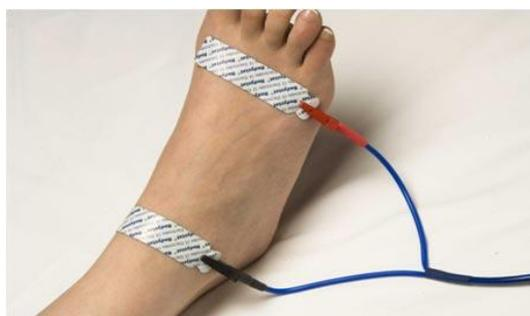

Figure 1. Placement of electrodes on foot
1. Place two electrodes on to the right foot (it might be helpful to draw an imaginary straight line between the protruding bones on the ankle, then place each electrode in the centre of that line). Place one just below the base of the toes and the other on the ankle between the medial and lateral malleoli (the large protruding bones on the side of the ankle) (figure 1).
2. Attach two alligator clips to the electrodes (red to the electrode nearest the toes, figure 1).